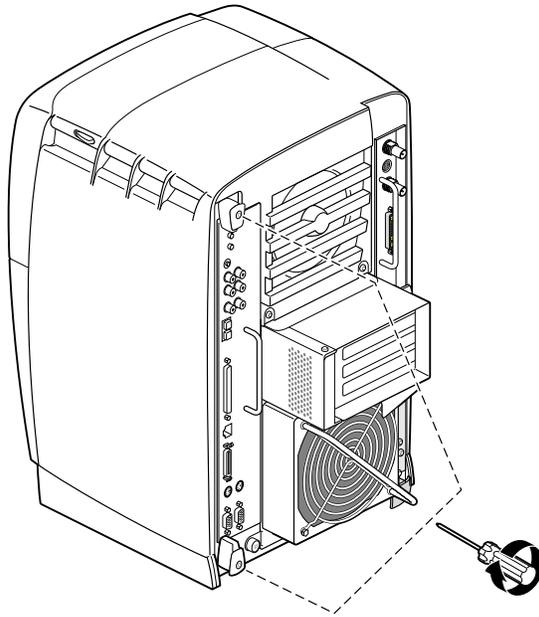

Figure 2-25 Tightening the System Module Screws
4. Tighten the captive screws in the sliding handles until the system module is attached to the chassis, as shown in Figure 2-25.